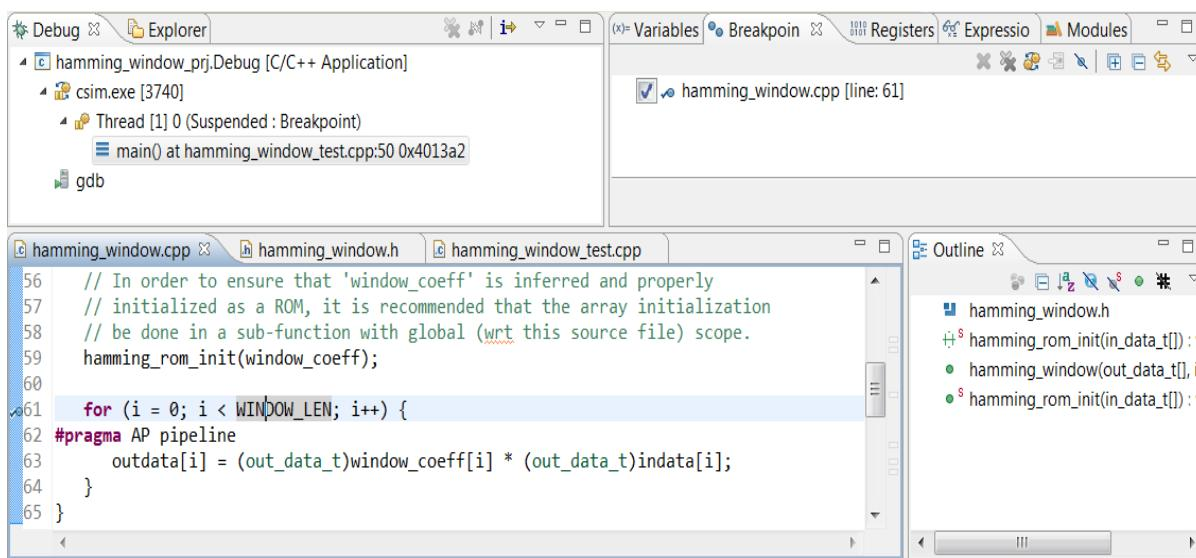

Figure 3-20: Debug Environment for C Validation Lab 3
5. Set a breakpoint at line 61 as shown in Figure 3-20.